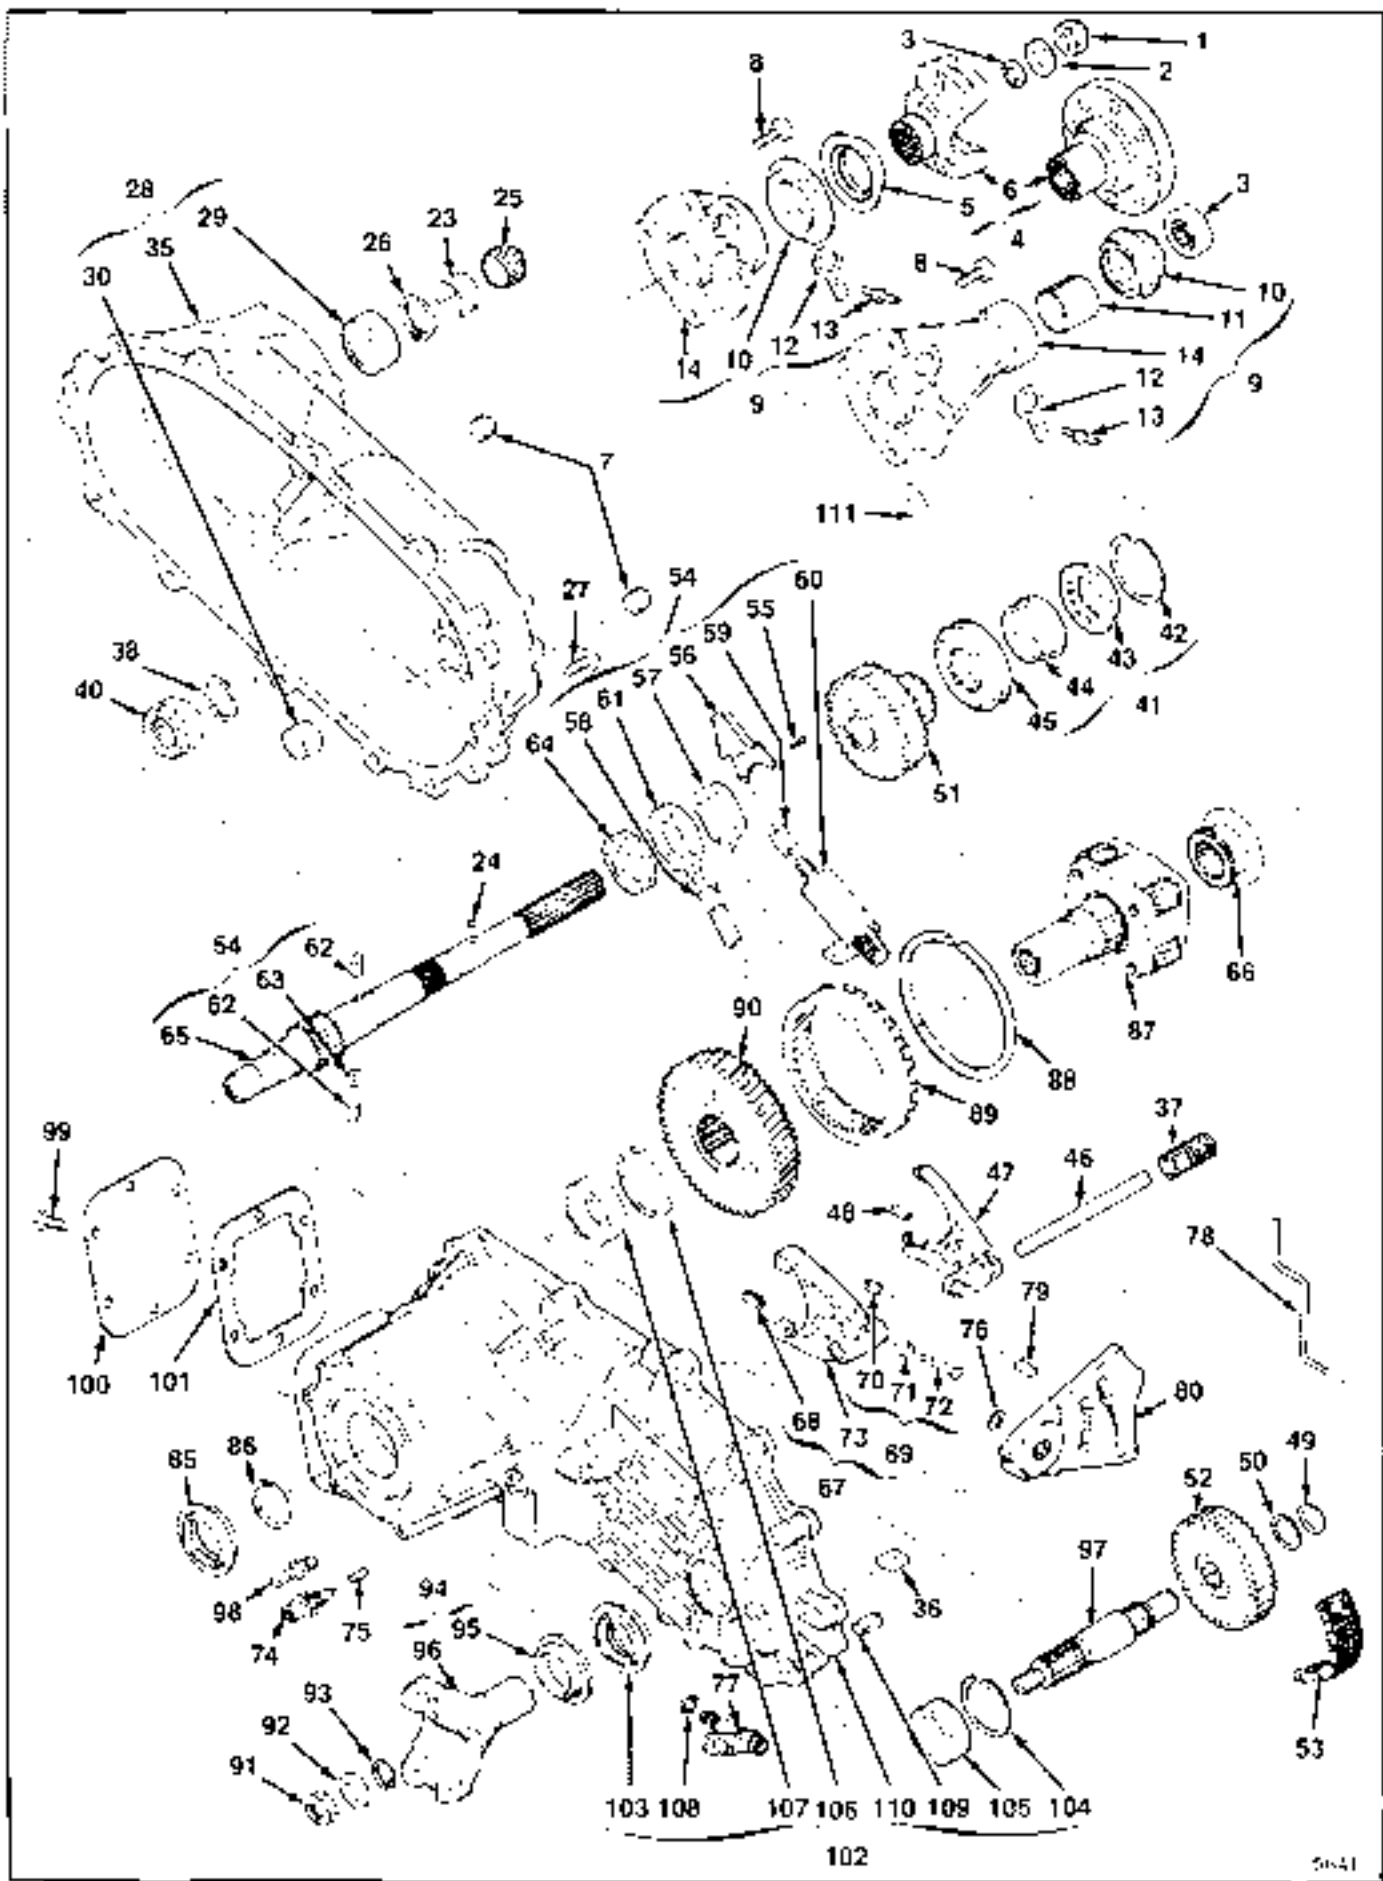

Figure P-2. Transfer Case Assembly, Mechanical Shift
**PARTS LIST FOR FIGURE P-2**
## PARTS LIST FOR FIGURE P-2 (cont.)